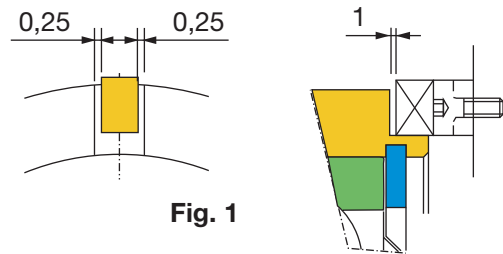

Fig. 1
**Important:** It is important to prevent inductor (101) from rotating. It is the customers responsibility to supply means to prevent inductor rotating. i.e. retention pin in slot. Check gaps between the inductor and the retention pin (see Figure 1) : minimum 0,5 mm gap -1 mm gap at the slot bottom.